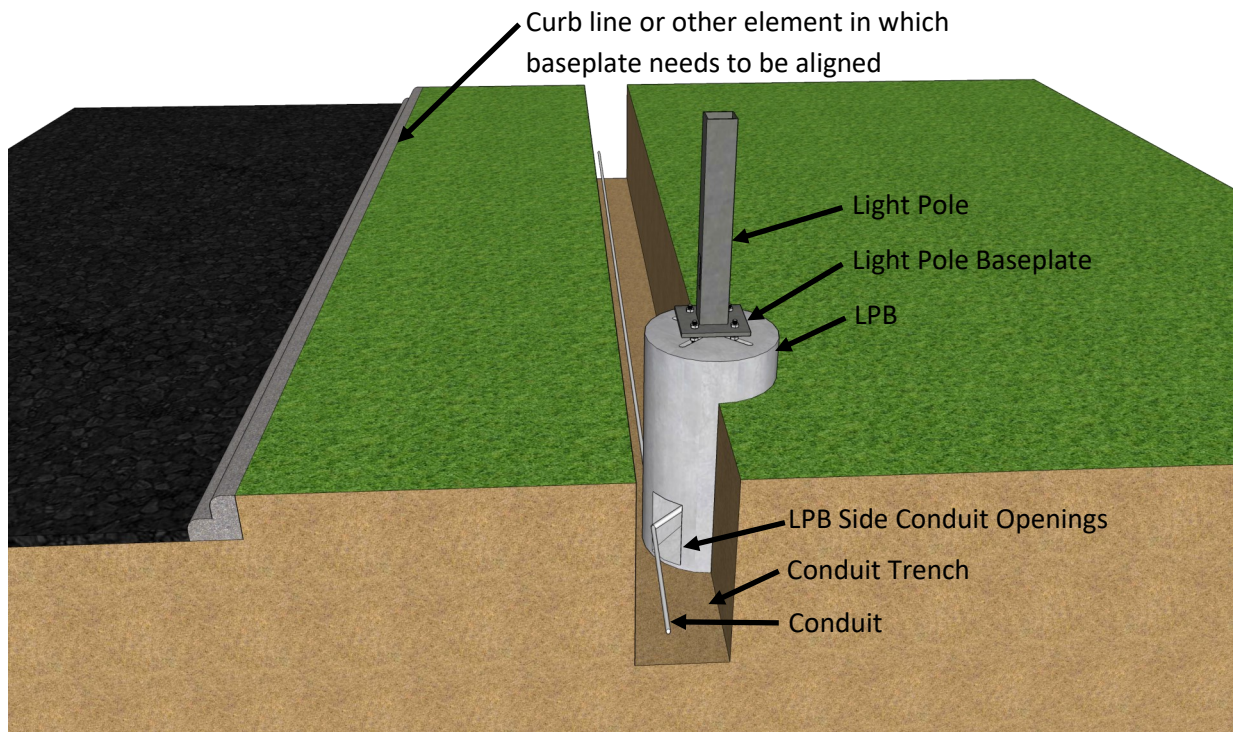

Figure 2: LPB Installation Orientation
2. Ensure that the conduit openings are aligned properly for the site and installation requirements. Refer to Figures 2 and 3 on page 8 for additional information on final LPB orientation.